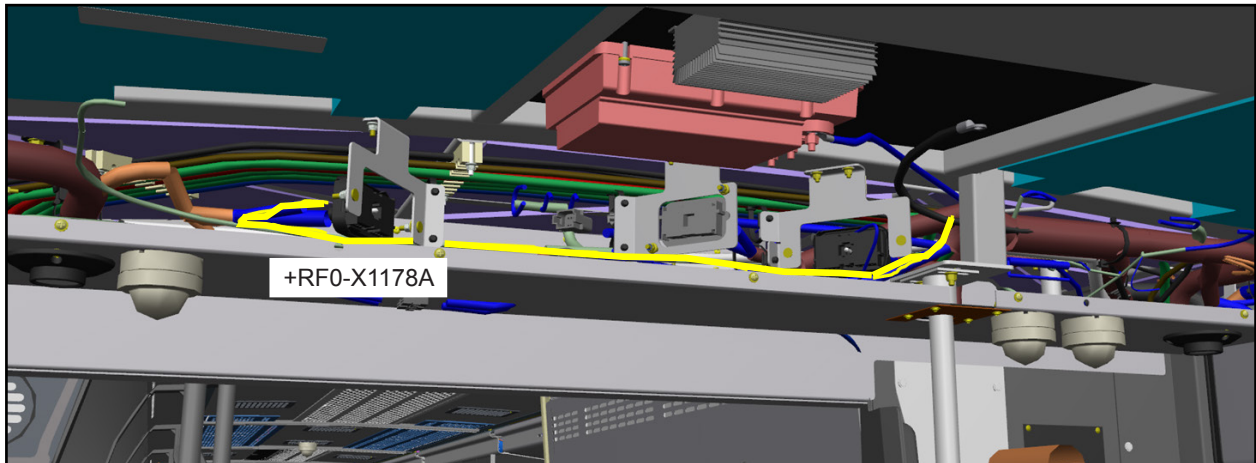

Figure 10 - WHA 01 Routing
1.18. Install the cables CAB001VAA and CAB001VAB by following the routing (see Figure 10).